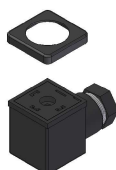

Figure 5.
3) Take off the connector pulling it up.  Figure 4. 4) Take off the rubber piece.  Figure 5.	2) Take out the screw between the connector and the base.  Figure 3. 5) Remove the inner piece, this one has power terminals. To remove it, push the carrier between the terminals 1 and the mass one. Finally take off the stuffing box and connect the supply cables as shown in figure 8.  Figure 6.  Figure 7.
3) Take off the connector pulling it up.  Figure 4.	4) Take off the rubber piece.  Figure 5.
4) Take off the rubber piece.  Figure 5.	5) Remove the inner piece, this one has power terminals. To remove it, push the carrier between the terminals 1 and the mass one. Finally take off the stuffing box and connect the supply cables as shown in figure 8.  Figure 6.  Figure 7.
3) Take off the connector pulling it up.  Figure 4.	2) Take out the screw between the connector and the base.  Figure 3. 4) Take off the rubber piece.  Figure 5. 5) Take off the lid.  Figure 6. 6) Remove the interior piece, which has the power terminals.  Figure 7.